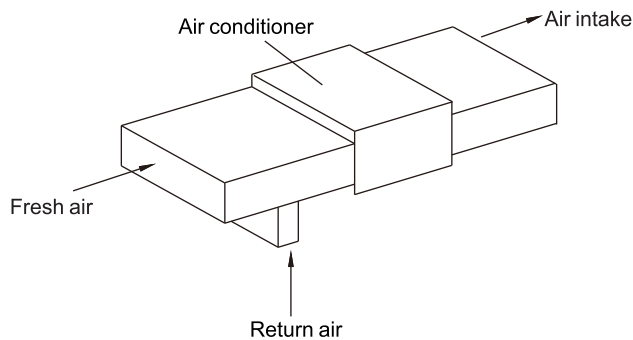

Figure 19
- 1) Entry of new air duct can be directly selected at a place of clean, no dust pollution. Rain louver and filter must be installed at the outdoor air intake. Air volume control valve is recommended to be installed at new air duct section; It's appropriate if the fresh air accounts for 0 ~ 15 % of the total air volume, shown in figure 19: